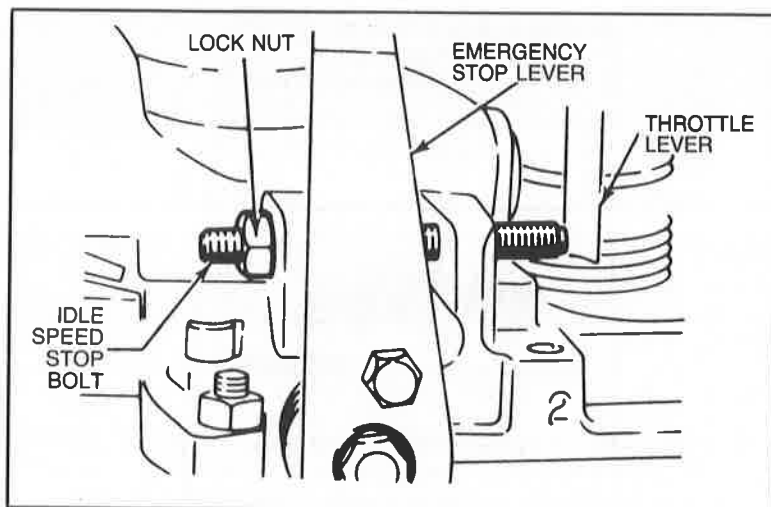

Figure 11 Idle Speed Adjusting Screw
2. Bring engine up to normal operating temperature (throttle lever against idle stop bolt) (Fig. 11). Stop engine.
2. Bring engine up to normal operating temperature (throttle lever against idle stop screw) (Fig. 11). Stop engine.
1. Bring engine up to normal operating temperature (throttle lever against curb idle stop screw) (Fig. 11). Stop engine.